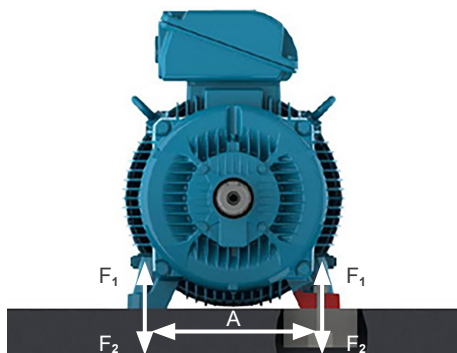

Figure 6.3: Motor installed on a concrete base
- Concrete bases: are most used for large-size motors (see Figure 6.3 on page 37).